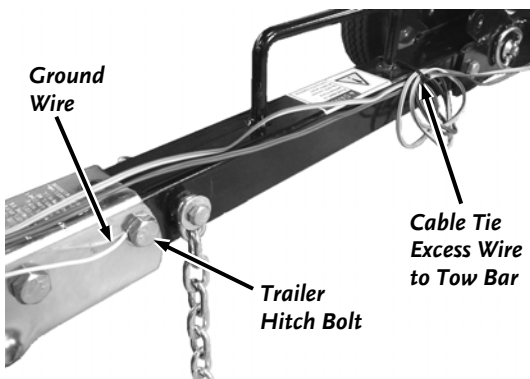

Figure 66
11. Loosen a Trailer Hitch Bolt, wrap the White (Ground) Wire around the Bolt, and then re-tighten with two 3/4" wrenches (**Figure 66**).